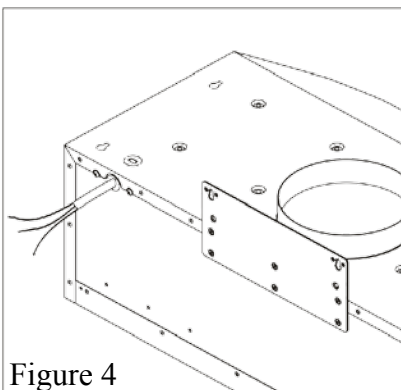

Figure 4
3. Punchure the knockout wire access hole at the back of the hood and draw the electrical wires through as shown in Figure 4.